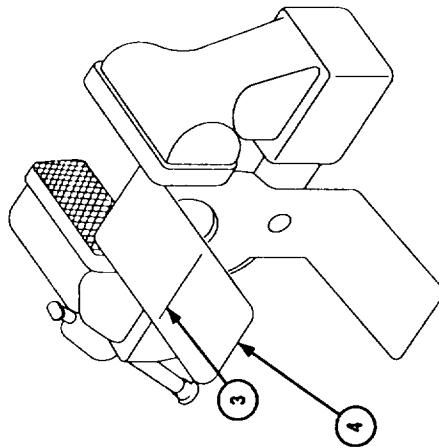

Figure 2
2. Locate and mark a cut line (3) 7/8 inch back from the end of the bracket leg (4) as shown in figure 2.
3. Cut the bracket leg at the cut line (3) as shown in figure 2.